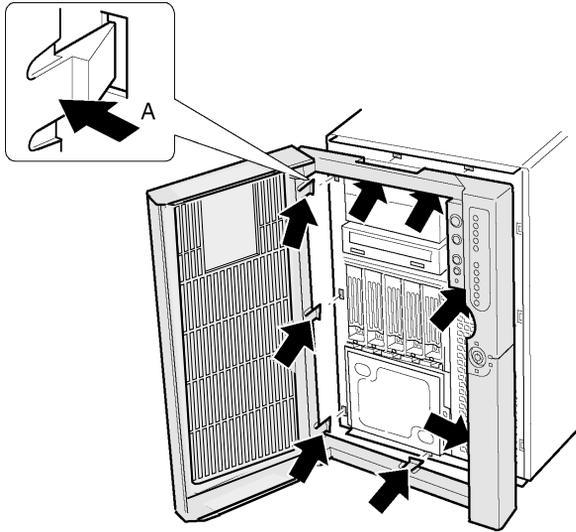

Figure 62 - Removing the original tower bezel
- 4 Press on each of the eight plastic tabs (Figure 62, A) on the frame of the bezel until all the tabs are free of their slots and then lift the bezel off the chassis.